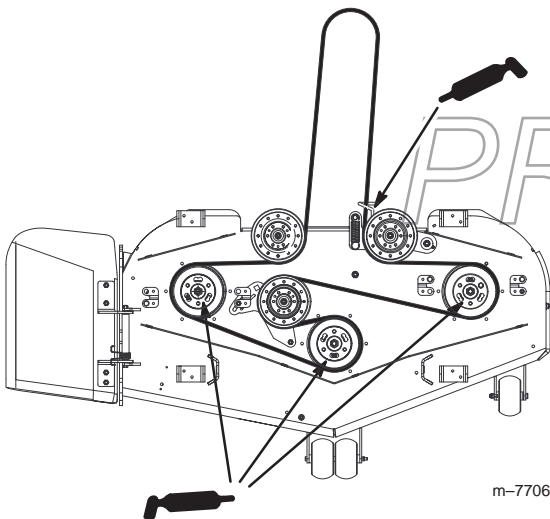

Figure 38
- Grease the fittings on the 3 spindle bearings (Fig. 38).
- Grease the idler pulley pivot (Fig. 38).
- Grease the fittings on the push arms (Fig. 38).